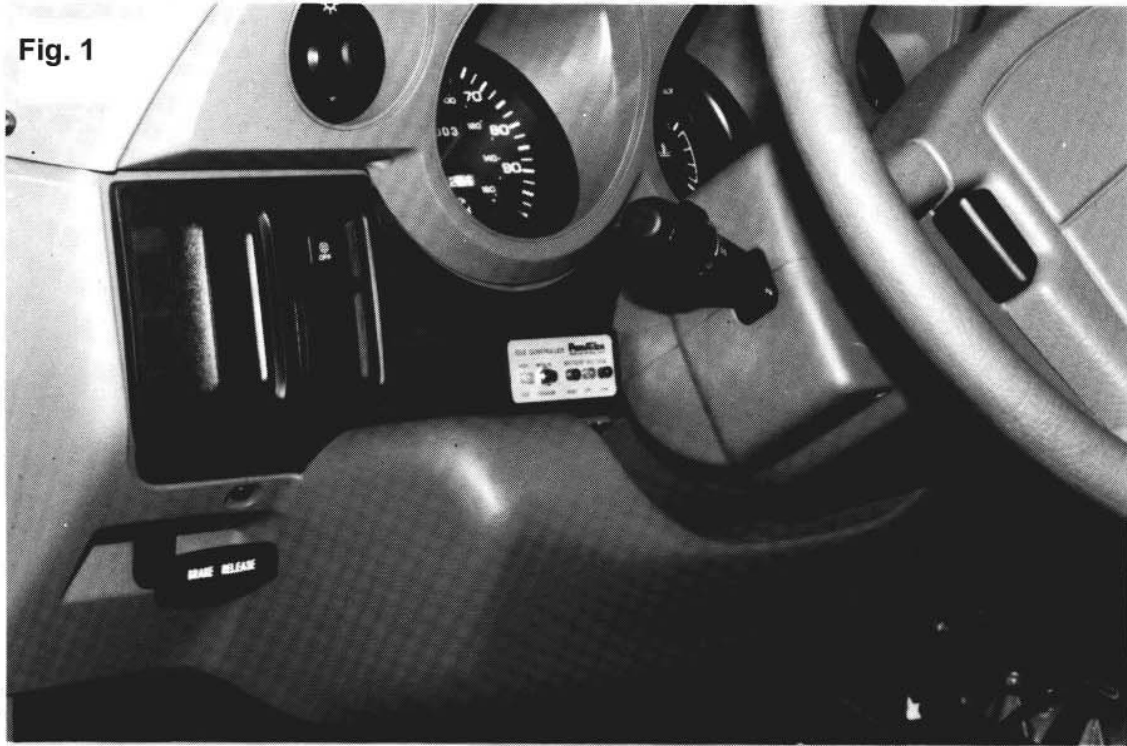

Fig. 1
- 1) Mount Idle Controller (inside vehicle) in a location that is both easily accessible to driver and within wiring harnesses reach. (Harness extension for Controller is available) (For ex. see fig. 1)